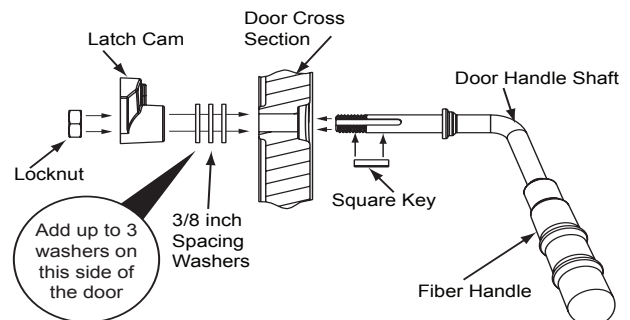

Figure 27.4 - Fiber Handle Option Assembly
2. Install additional washer(s) as shown in **Figure 27.4**
6. Install fiber handle (**Figure 27.4**).